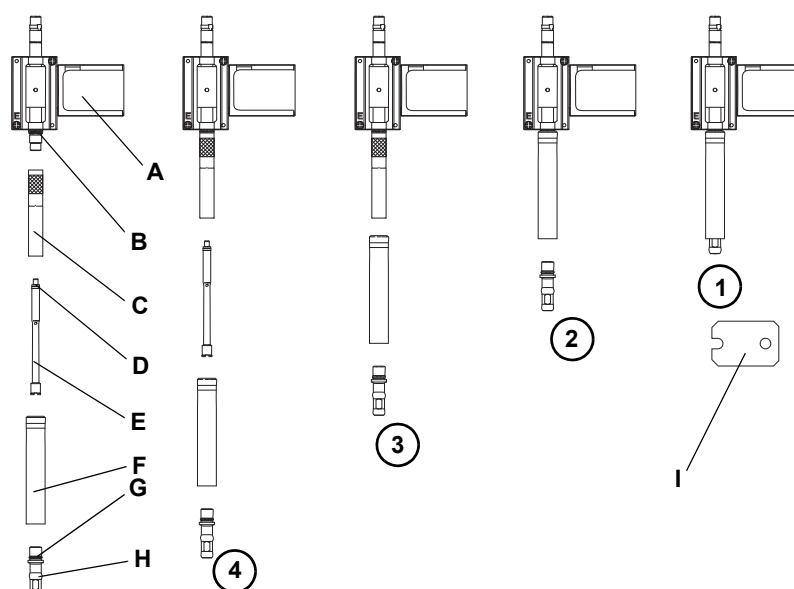

Fig. 7-11 Air LiHa DiTi pick up mechanism removal/installation
- 2 Hold the tip ejector tube and tip adapter while unscrewing the DiTi cone, using the supplied DiTi cone wrench (step (1) and (2) in Fig. 7-11, 2 7-38).
- 4 Remove the tip ejector tube (step (3) in Fig. 7-11, 2 7-38).
- 5 Unscrew and remove the adapter cylinder and the air tube (step (4) in Fig. 7-11, 2 7-38).